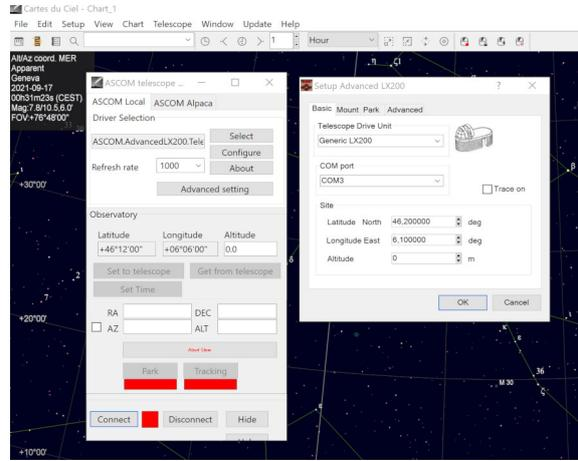

Figure 18: The interface of the *Advanced LX200 ASCOM driver*. The COM port selected is the USB-to-Serial interface of noted as *USB 2* on the controller.
- Select the *Advanced LX200 ASCOM driver* that needs to be installed beforehand. The *COM-port* offered is most likely the USB-to-serial converter of *Blue Lizard* (Fig. 18). Denote that the meridian flip can also be triggered by the driver here (Fig. 19). If you choose this option, the meridian flip has to be disabled in the *Blue Lizard* controller. In this case, the controller does the meridian flip, therefore we set the *ASCOM* driver to a fork mount (Fig. 19).